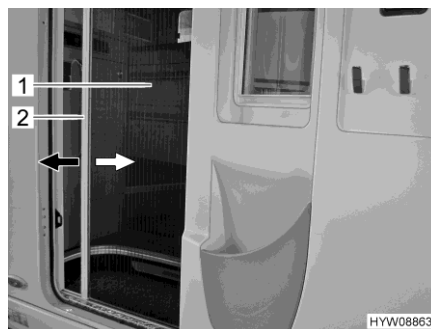

Fig. 35 Insect screen (living area door)
- Closing:** ■ Hold holding bar (Fig. 35,2) with both hands and pull the insect screen (Fig. 35,1) evenly out of the door holder.
- Opening:** ■ Hold holding bar (Fig. 35,2) with both hands and push the insect screen (Fig. 35,1) back into the door holder applying slight pressure.